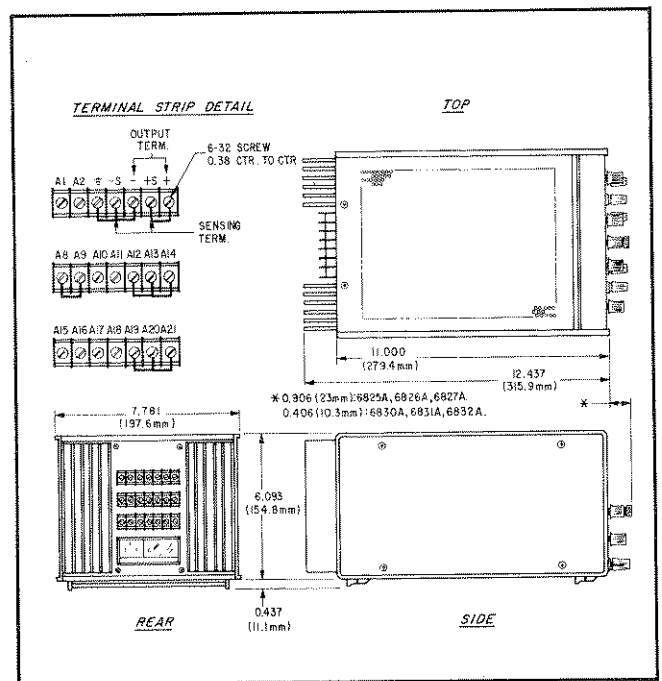

Figure 2-1. Outline Diagram
<p>Input Power: Model 6826A: 104-127/208-254Vac (switchable), 48-63Hz, 1.0A, 130W Model 6827A: 104-127/208-254Vac (switchable), 48-63Hz, 1.2A, 150W</p> <p>Meters: Individual voltage and current meters. DC accuracy is 3% of full scale. AC accuracy is 5% full scale with sinusoidal, 100Hz input.</p> <p>Meter Ranges (DC): Model 6826A: ±6V, ±60V ±0.12A, ±1.2A Model 6827A: ±12V, ±120V ±0.06A, ±0.6A</p> <p>Meter Ranges (AC): Model 6826A: 4V (uncal), 40V rms 0.08A rms, 0.8A rms Model 6827A: 8V (uncal), 80V rms 0.04A rms, 0.4A rms</p> <p>Temperature Ratings: Operating: 0 to 55°C. Storage: -40 to +75°C.</p> <p>Cooling: Convection cooling is employed. The supplies have no moving parts.</p> <p>Dimensions: See outline diagram, Figure 2-1.</p> <p>Weight: 18 lbs. (8.2 kg.) net, 21 lbs. (9.5 kg.) shipping.</p>	<p>Model 6827A: X1 Range: -10V to +10V, 0 to 0.5A X10 Range: -100V to +100V, 0 to 0.5A</p> <p>Load Effect (Load Regulation): Voltage load effect is given for a load current change equal to the current rating of the supply. Current load effect is given for a load voltage change equal to the voltage rating of the supply. Model 6826A: Voltage (X1 Range): 0.01% + .5mV Voltage (X10 Range): 0.01% + 1mV Current: .01% + 250µA</p> <p>Load Effect (Load Regulation) Continued: Model 6827A: Voltage (X1 Range): .01% + .3mV Voltage (X10 Range): .01% + 1mV Current: .01% + 250µA</p> <p>Source Effect (Line Regulation): For a change in line voltage between 104 and 127Vac/208 and 254Vac at any output voltage and current within rating. Model 6826A: Voltage (X1 Range): .01% + .5mV Voltage (X10 Range): .01% + 5mV Current: .01% + 250µA Model 6827A: Voltage (X1 Range): .01% + 1mV Voltage (X10 Range): .01% + 10mV Current: .01% + 250µA</p> <p>PARD (Ripple and Noise): Rms/p-p (20Hz to 20MHz) at any line voltage and under any load condition within rating. Model 6826A: Voltage (X1 Range): 2mV rms/10mV p-p Voltage (X10 Range): 6mV rms/35mV p-p Current: .8mA rms/5mA p-p Model 6827A: Voltage (X1 Range): 2.5mV rms/15mV p-p Voltage (X10 Range): 10mV rms/50mV p-p Current: .4mA rms/5mA p-p</p>
2-14 Figure 2-1 illustrates the outline shape and dimensions of Models 6826A and 6827A.